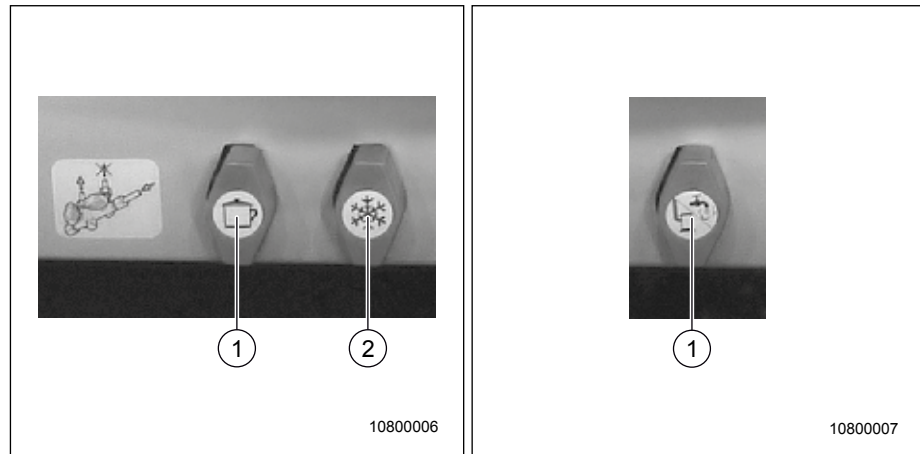

Fig. 51 Gas shut-off valve, cooker and fridge Fig. 52 Gas shut-off valve, heater
- The gas shut-off valve for the hob (Fig. 51, Pos. 1) and the fridge (Fig. 51, Pos. 2) are located underneath the kitchen work surface.